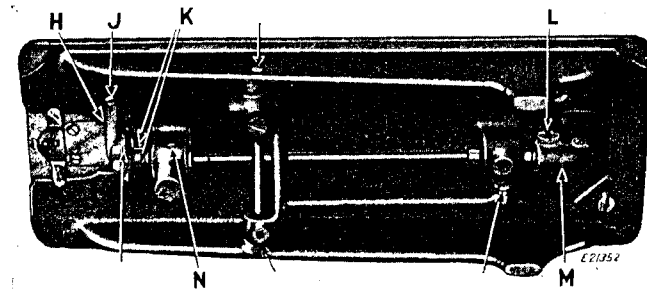

Fig. 6. Base of Machine, Showing Oiling Points
Turn the machine back on its hinges and apply oil at the places shown by arrows in Fig. 6.
Occasionally remove the large screw (L, Fig. 6) and fill the gear case (M, Fig. 6) with **GEAR LUBRICANT**, a grease which is sold only by Singer Sewing Machine Company for this purpose, then replace the screw (L).